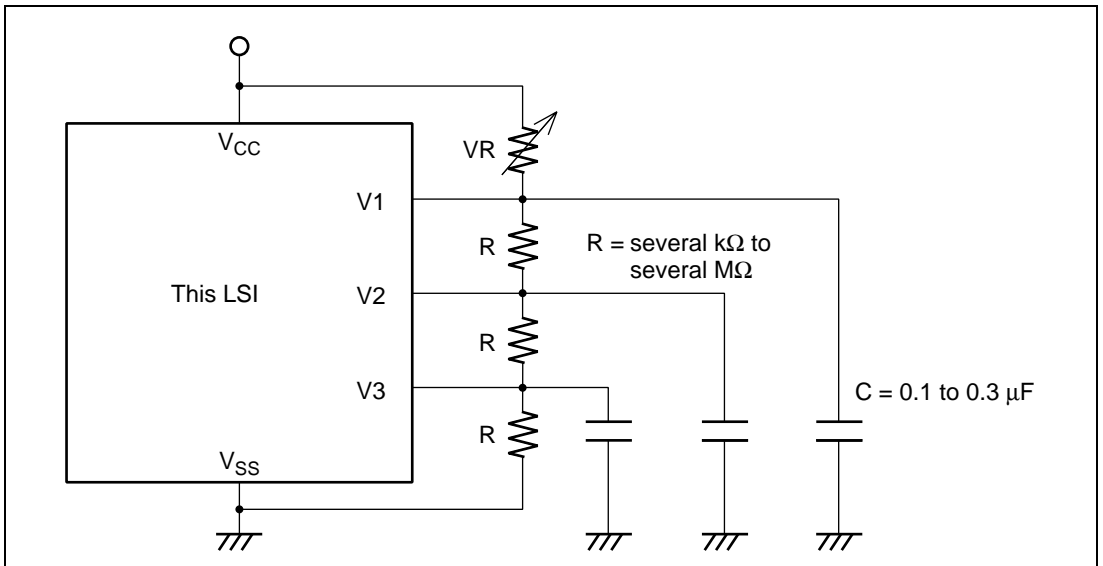

Figure 19.10 Connection of External Split Resistor
When a large panel is driven, the on-chip power supply capacity may be insufficient. In this case, the power supply impedance must be reduced. This can be done by connecting bypass capacitors of around 0.1 to 0.3 μF to pins V1 to V3, as shown in figure 19.10, or by adding a split resistor externally. The voltage on the V1 pin can further be adjusted by connecting a variable resistor (VR) between the V_{cc} and V1 pins.